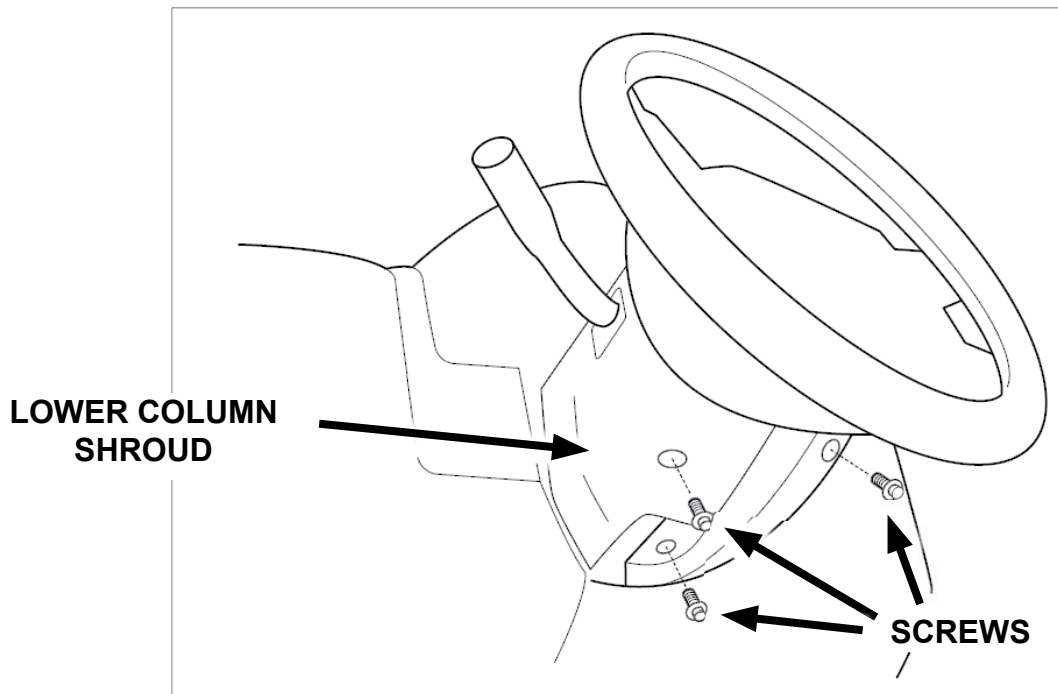

FIGURE 5
37. Install the lower column shroud. Install and tighten the three machine screws. See Figure 5.